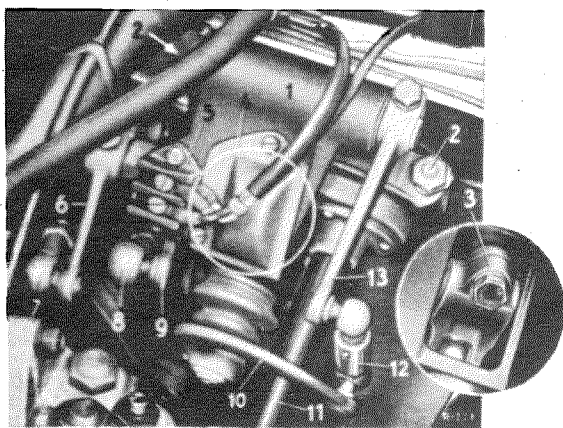

Fig. 26 — 3/1
2. The end play of the selector lever claw (3) does not exceed 0.2 mm when new. At the repair stage a maximum play of 0.4 mm is admissible (see Fig. 26 — 3/1).